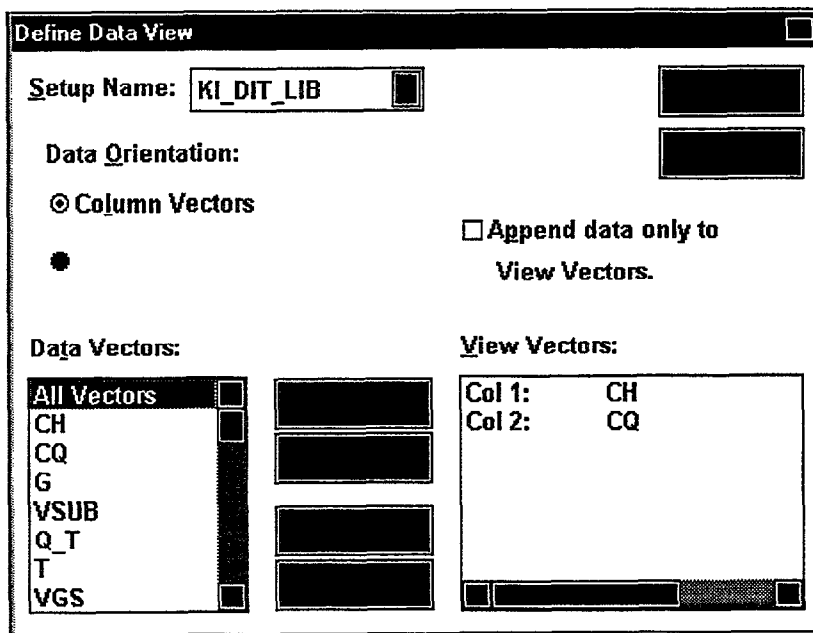

Figure 9 Build Plot Group Window
5. If you wish to plot two sets of data on the same scale you may use the **Build Group** feature. Click on the **Build Group** button, and add both C_H and C_Q to the group, for example **Sim_CV**. (See Figure 9.) After you close this window, you will notice a **Sim_CV** group is available under the y-axis sub-menu selection. Choose **Sim_CV** for the y-axis.